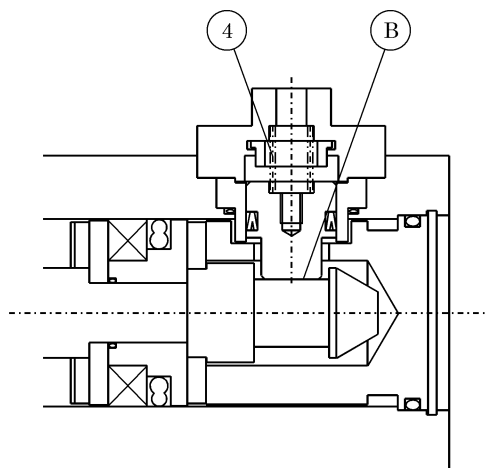

Fig. 2
- (b) When the piston of cylinder further comes closer to its stroke end and the groove ④ of sleeve matches to the tail of stopper piston, the stopper piston drops back to the groove ④ due to expansion force of spring ③, generating an effect of locking the piston of cylinder. (Fig. 2)